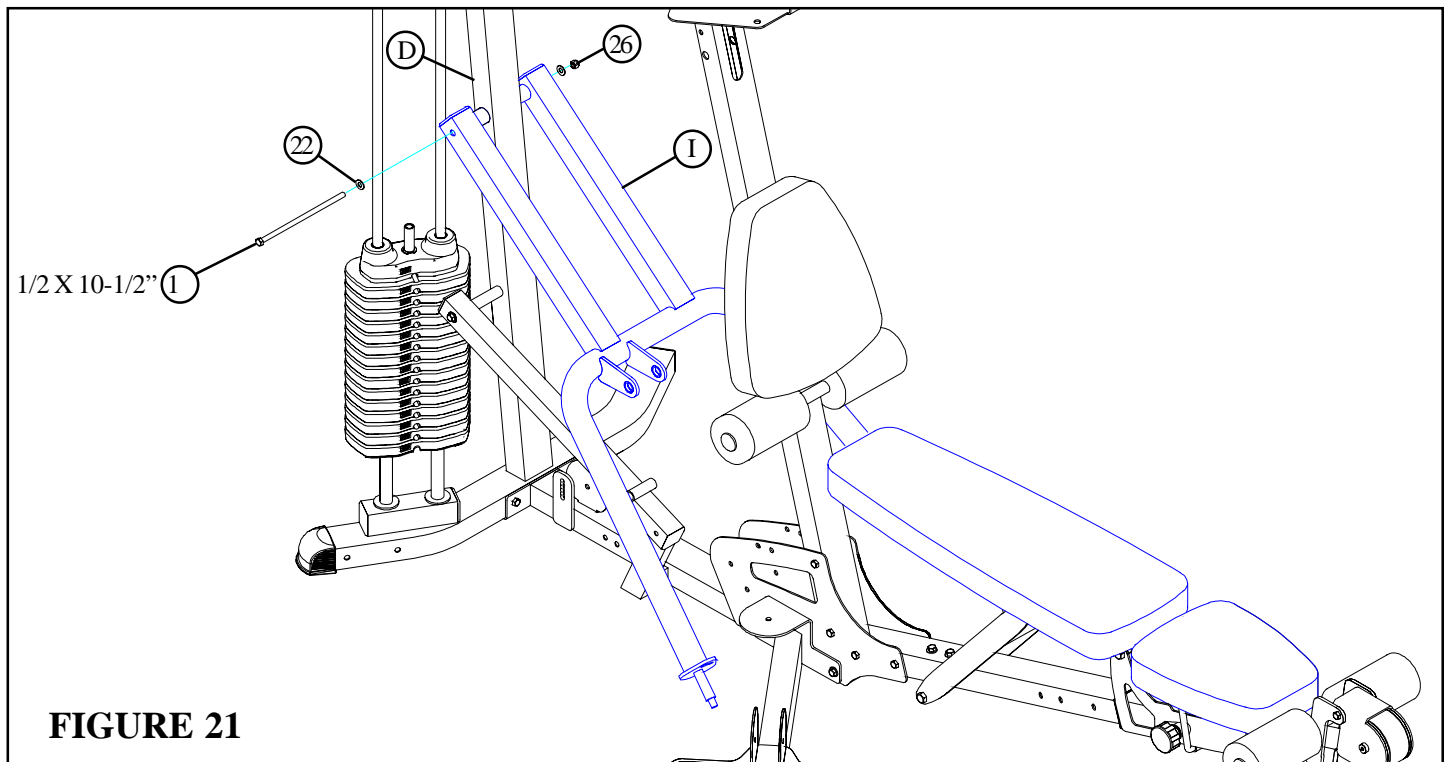

FIGURE 21
- **SECURELY** assemble the PRESS ARM (I) to the REAR UPRIGHT (D) using one 1/2 X 10-1/2" BOLT (1), two 1/2" WASHERS (22) and one 1/2" LOCK NUT (26) as shown in FIGURE 21.